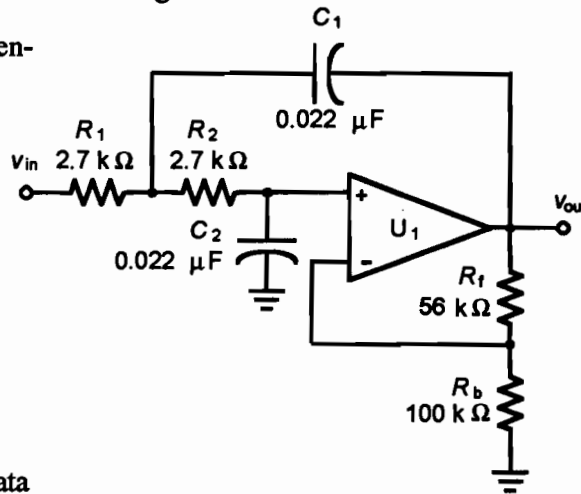

Figure 62.1
1. Build the low-pass filter circuit of Figure 62.1.